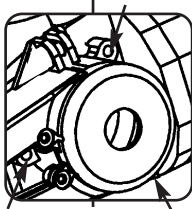

Fig.2
3. Ensure that the Mini Grinder extension arm is always fitted securely to the mounting plate. If loose, tighten the 3 screws that hold the Mini-Grinder to the mounting plate on the tool body. as seen in fig.2.